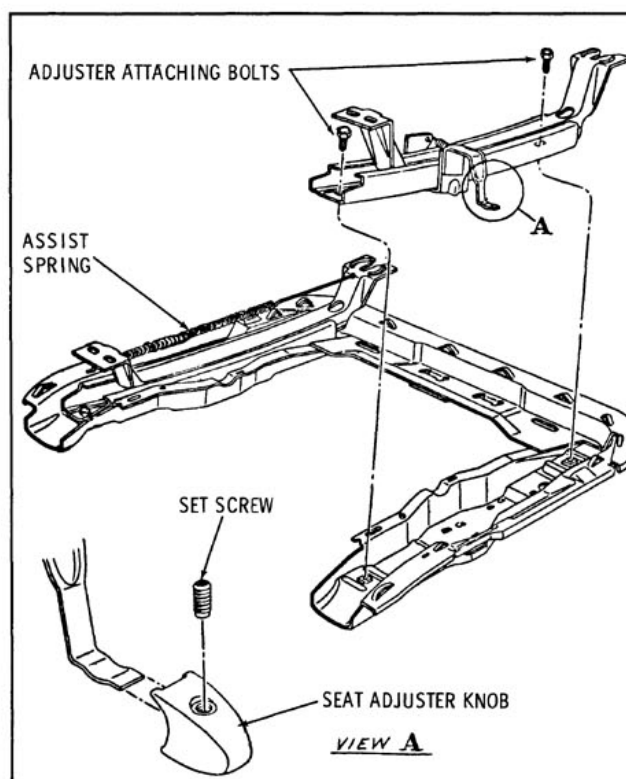

Fig. 16-102 Bucket Seat Adjusters
2. If adjuster to be replaced is equipped with an assist spring, remove spring from adjuster. (Fig. 16-102)
5. Remove adjuster-to-seat bottom frame front and rear attaching bolts and remove adjuster from seat assembly. (Fig. 16-102)